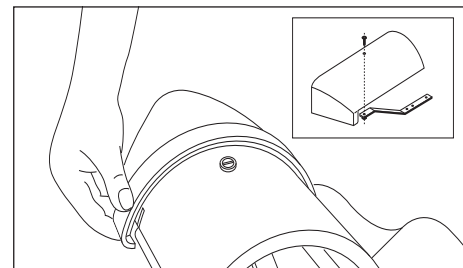

Fig. 10
- 11 Position first expansion block at eaves, a maximum 185mm from mitred end of batten section (Fig. 10).
- 18 Locate block end hip tile and assembly onto top of circular beads of dry hip batten section, and fix end of bracket to hip rafter using two 75mm x 10g stainless steel drive screws (Fig. 10).